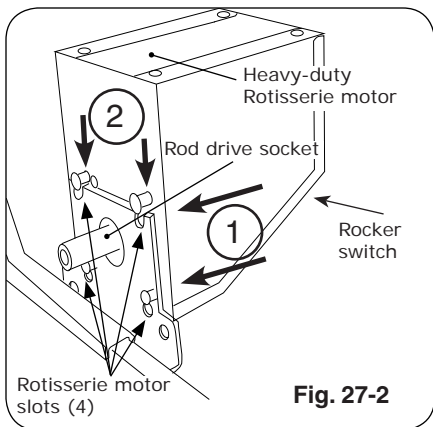

Fig. 27-2
12. Plug-in the rotisserie motor and press the rocker switch to start (Fig. 27-2).